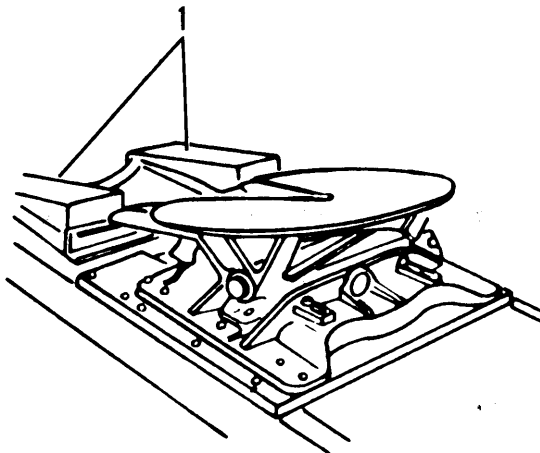

Figure 2-27. Fifth Wheel and Approach Ramps
- (5) Release semitrailer kingpin from towing vehicle fifth wheel.
- (6) Slowly drive towing vehicle forward until semitrailer is clear of approach ramps (1, fig. 2-27).